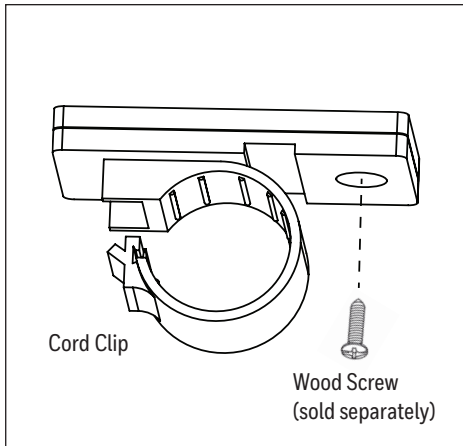

Figure 1.7
7. (Optional) Cord clips have a round hole to accommodate a wood screw (sold separately) as an option to the taping method (Figure 1.7).